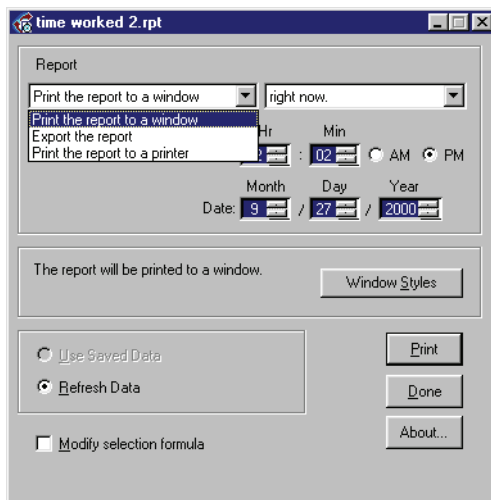

Figure 7-4: Report Options Window
7. Once you have entered a valid date range, the Report Options window will appear (see Figure 7-4). You are now ready to generate the report output.
1. To view the formatted report on the computer, click on the  on the left side of the “Report” field in the Report Options window and select Print the report to a window (see Figure 7-4 on page 4 of this section).
2. To select when you want to view the report, click on the  on the right side of the “Report” field and select “right now” (see Figure 7-4 on page 4 of this section).
5. Once all your options have been chosen, click on the  button. This will return you to the Report Options window (see Figure 7-4 on page 4 of this section).
1. To save the formatted report to file, click on the  on the left side of the “Report” field in the Report Options window and select Export the report (see Figure 7-4 on page 4 of this section).
2. To select when you want to save the report, click on the  on the right side of the “Report” field and select “right now” (see Figure 7-4 on page 4 of this section).
7. When all your selections have been made, you will be returned to the Report Options window (see Figure 7-4 on page 4 of this section).
1. To print the formatted report, click on the  on the left side of the “Report” field in the Report Options window and select Print the report to a printer (see Figure 7-4 on page 4 of this section).
2. To select when you want to print the report, click on the  on the right side of the “Report” field. For this example, select “right now” (see Figure 7-4 on page 4 of this section).
6. Once you have made your printer selection, click on the  buttons until you return to the Report Options window (see Figure 7-4 on page 4 of this section).